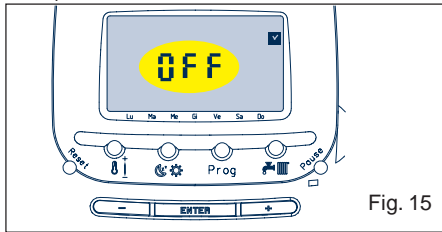

Fig. 15
- the word OFF in the temperature field (fig. 15).
When the  button is pressed, the system enters the TIMER THERMOSTAT OFF operating mode (fig. 15).